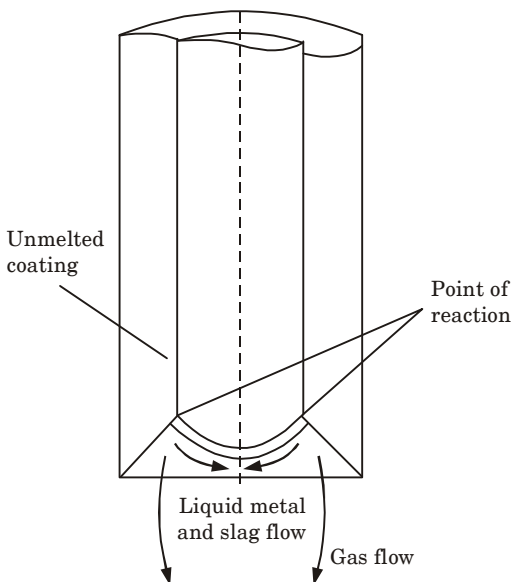

Fig. 3.12.1. Slag metal reaction in SMA welding.
2. The form of electrode tip in shielded metal arc welding is illustrated in Fig. 3.12.1. The coating forms a cone within which a liquid drop forms. Interaction between slag and metal takes place initially at the junction between cone and liquid.
5. In practice the drop profile is by no means as regular as shown in Fig. 3.12.1. It is in a state of constant movement, as is the arc root. This does not, however, affect the basic geometry of the arrangement.